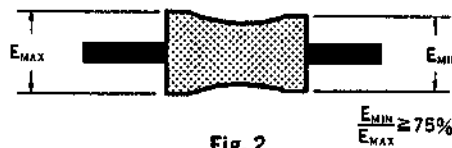

Fig. 2
- (3) In this time, check that the amplitude minimum value (E MIN) of the RF waveform is more than 75% of maximum value (E MAX). (fig. 2)